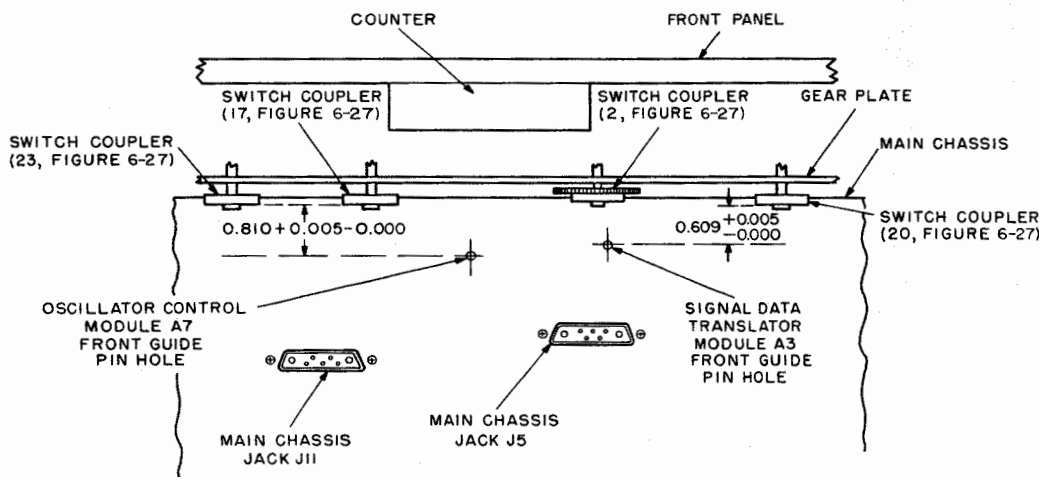

Figure 6-28. Frequency Selector Control Switch Coupler Alignment
(q) All gears should now be meshed. Loosen the megacycle knob collar clamps (mounted on first switch coupler shaft on right as viewed from rear). Separate gears (18, 19). Turn switch coupler (20) so that its driving boss is vertical within ± 0.5 degree. Position the switch coupler so that the distance between the major rear flat surface of the coupler and the centerline of the front guide pin hole (on the main chassis) for Signal Data Translator CV-1377 ()/PRC-47 (A3) is 0.609 ± 0.005 inch. (See figure 6-28.) Tighten both collar clamps on the switch coupler shaft.
(r) Loosen both collar clamps mounted on shaft of switch coupler (23) and separate gears (21, 22). Adjust switch coupler (23) so that its driving boss is vertical within ± 0.5 degree. Position the switch coupler so that the distance between the major rear flat surface of the coupler and the centerline of the front guide pin hole (on the main chassis) for Oscillator Control C-4311/PRC-47 (A7) is 0.810 ± 0.005 inch. (See figure 6-28.) As stated in the note in step (q), this coupler may also be adjusted and secured in position with its mating coupler on the oscillator control module, but such an adjustment will not be satisfactory for all replacement oscillator control modules.